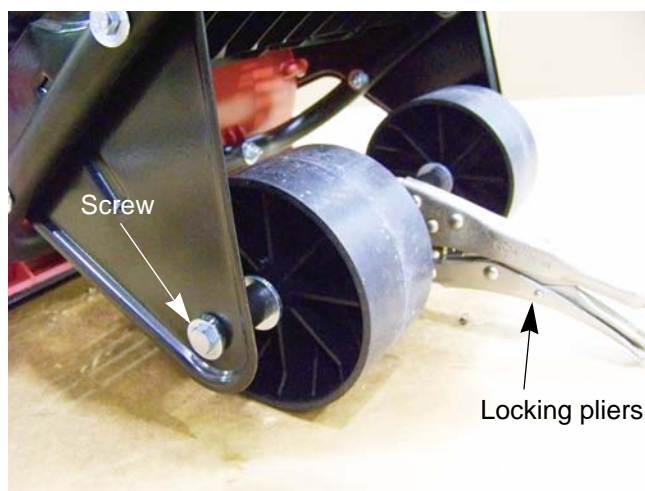

Figure 4.15
NOTE: A pair of locking pliers can be used to hold the axle while removing the screw. See Figure 4.15.
9. A pair of locking pliers can be used to hold the axle while removing the screw. See Figure 4.15.